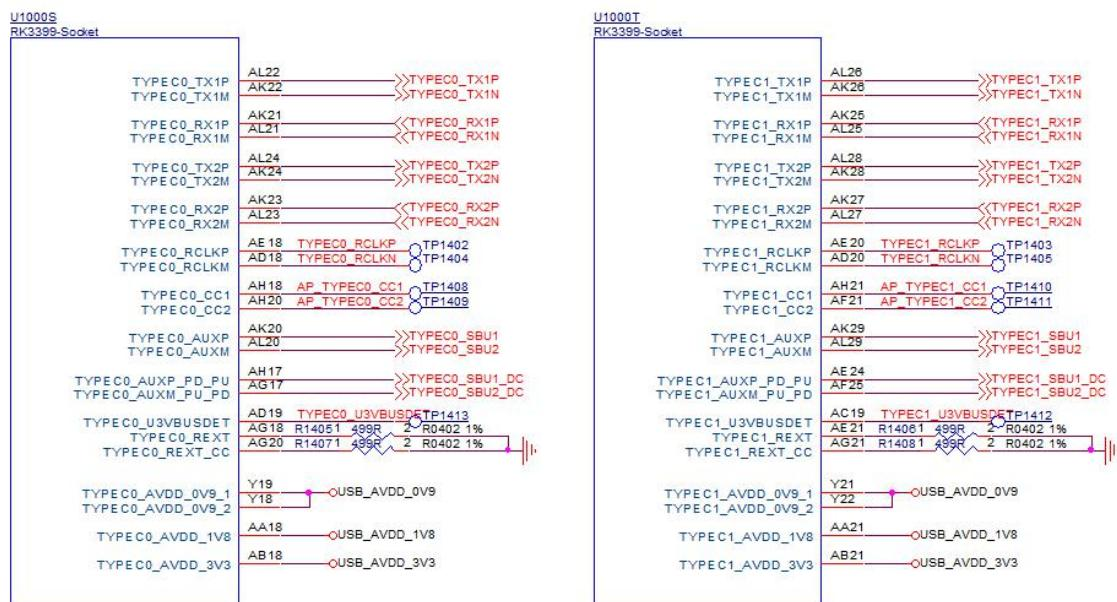

Figure 3-52 RK3399 USB 3.0 PHY
- If use PD function, it needs to add discharge circuit in power input port to prevent the device from damaged by over-voltage caused by replacing the device. shown as Figure 3-52.